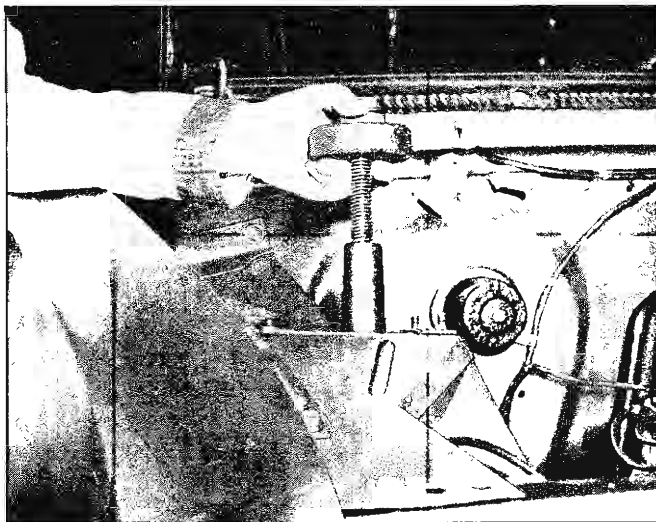

Fig. 23—Installing Spring Compressor—Chevy II
4. Insert Spring Compressor J-6874-4-5 with Adapters J-6874-8-9 into upper spring tower so that lower U-bolt fits into shock absorber mounting holes in spring seat (fig. 23). Secure the two lower studs to the spring seat with nuts.